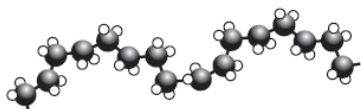

Fig. 7.1 Polythene
- 7 Two samples of similar size and shape of different polymers are stretched to test their stiffness. Figs. 7.1 and 7.2 show diagrams of their internal structure.
Fig. 7.1 shows Polythene. It has long chain molecules which can be folded up. The bonds in the chain can rotate freely.